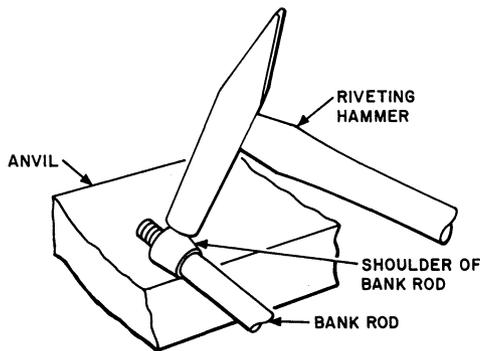

Fig. 13 — Method of Bumping Bank Rod
(6) If the wiper tips do not overlap the bank contacts as specified, loosen the bank rod nuts with the 417A wrench, shift the banks toward the front of the switch, and tighten the bank rod nuts securely. Then check the centering of the wipers on the bank contacts in accordance with requirement 2.11. If this procedure does not correct the trouble, remove the bank rod nuts with the wrench and carefully lower the banks. Loosen the bank rod collar clamping screws of the left-hand bank rod with a 3-inch C screwdriver and remove the bank rod. Place the rod on an anvil or similar metal surface so that the tapered surface of the shoulder rests flat as shown in Fig. 13. Then strike the flat portion of the shoulder close to the upper edge a light blow with the riveting hammer. Repeat this operation if necessary until a bump of approxi-